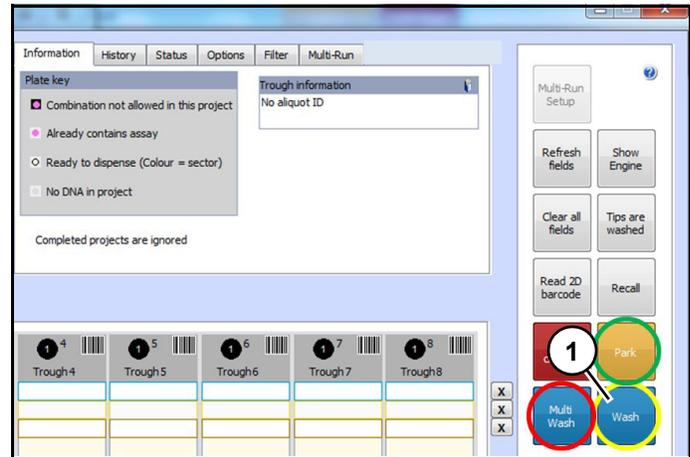

Figure 6
12. Click "Wash" (1) (Figure 6) to perform a single wash. Click "Wash" two more times to perform two more washes.